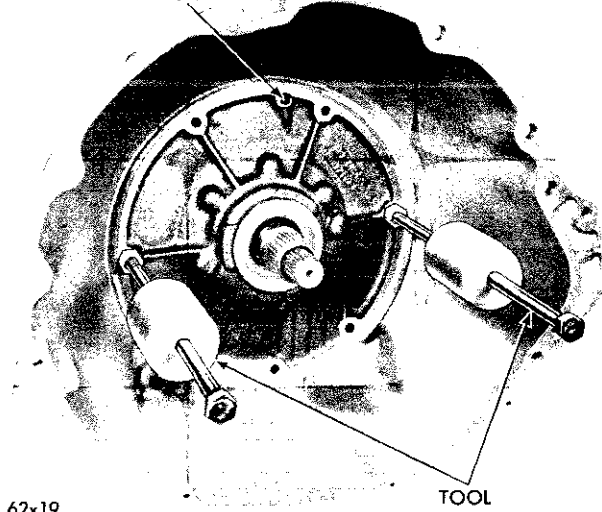

Fig. 56—Removing Front Oil Pump and Reaction Shaft Support Assembly
(1) Remove the front oil pump housing retaining bolts.
(2) Tighten the front band adjusting screw until the band is tight on the front clutch retainer. This prevents the clutch retainer from coming out with the pump which might cause unnecessary damage to the clutches.
(3) Attach Tool C-3752 to the pump housing flange (Fig. 56), thread the screws of the tool into the flange holes at 9 and 3 o'clock locations.
(4) Bump outward evenly on the two "knocker weights" to withdraw the oil pump and reaction shaft support assembly from the case.